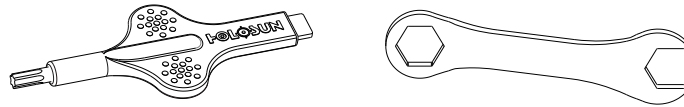

Fig 22
1. T10 Torx tool with flat driver to adjust windage & elevation. (See Figure 22)